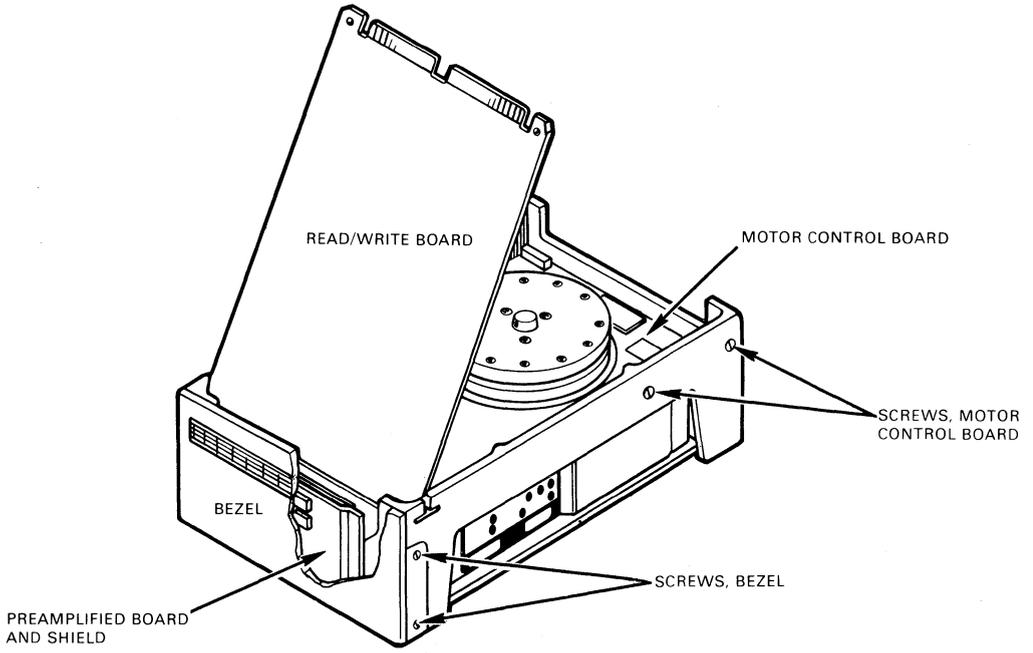

Figure 6-15 RD53 Read/Write Board Removal
1. Remove the four Phillips screws retaining the slide plate and ground clip. Set the slide plate aside (Figure 6-15).